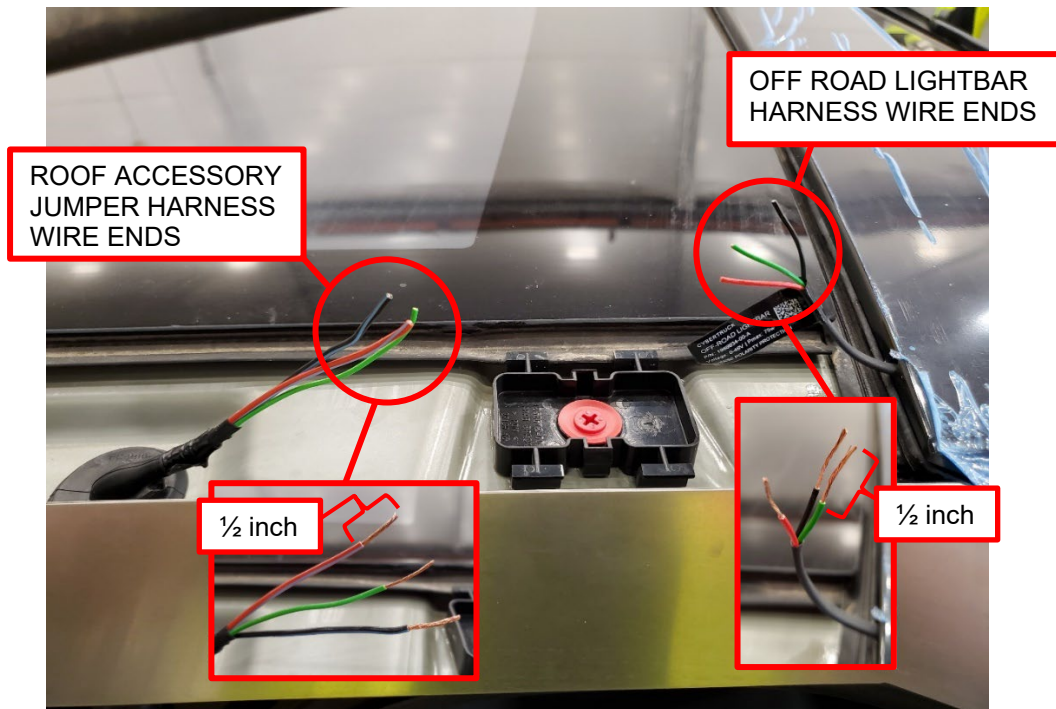

Figure 12
12. Use a wire stripper to strip approximately ½ inch of insulation from the roof accessory jumper harness wire ends (x3) and the off road lightbar harness ends (x3) (Figure 12).